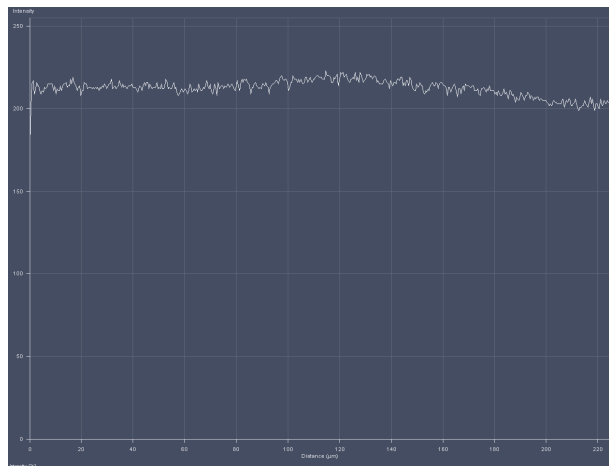

Fig. 9-17 Line diagram at lower cover slip surface
- Continue cautiously moving upwards. The line position will reach its maximum (Fig. 9-17).